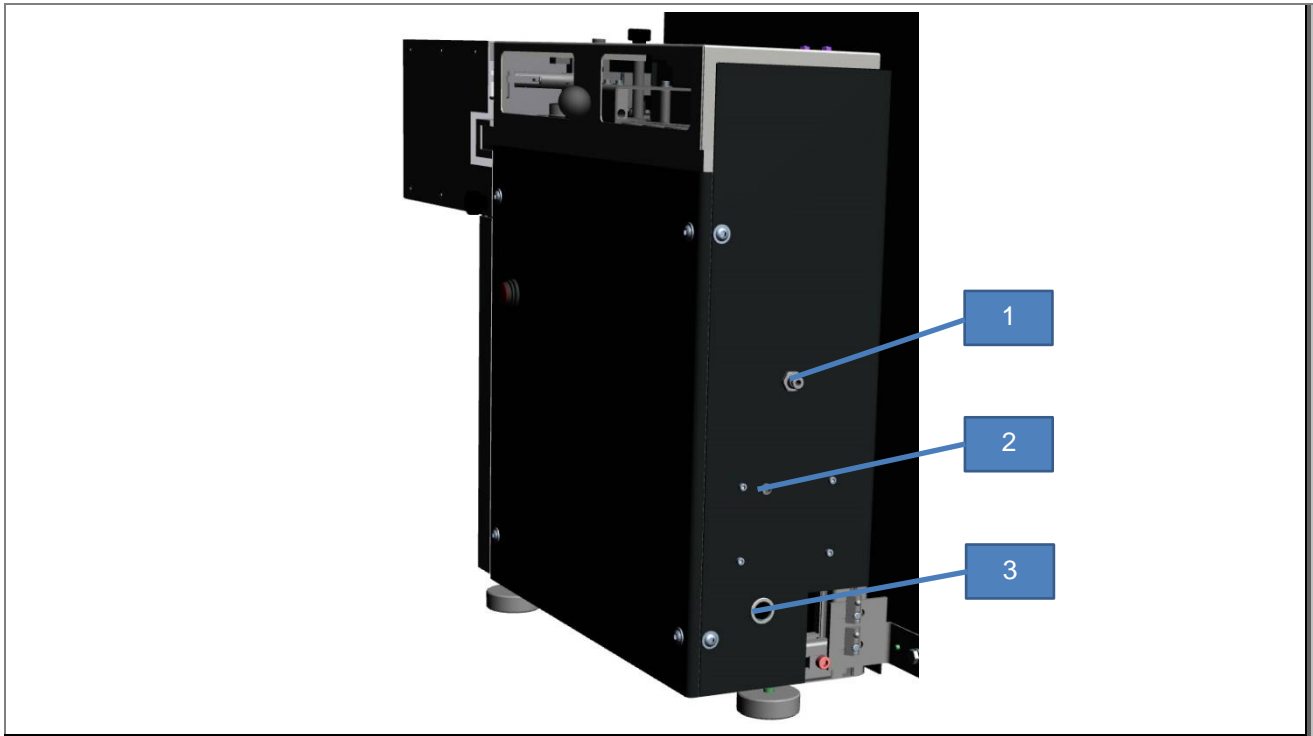

Fig. 1: Connections on the back of the CSi/d Autoloader
1. With the help of the supplied pneumatic hoses and the tee, connect the pneumatic connection on the CSi and the CSi/d Autoloader (1) (see Fig. 1: Connections on the back of the CSi/d Autoloader).
3. Connect the connection inside the analyzer to the analyzer connection (3) (see Fig. 1: Connections on the back of the CSi/d Autoloader).
4. Connect the power supply unit provided to the electrical connection (2) (see Fig. 1: Connections on the back of the CSi/d Autoloader).